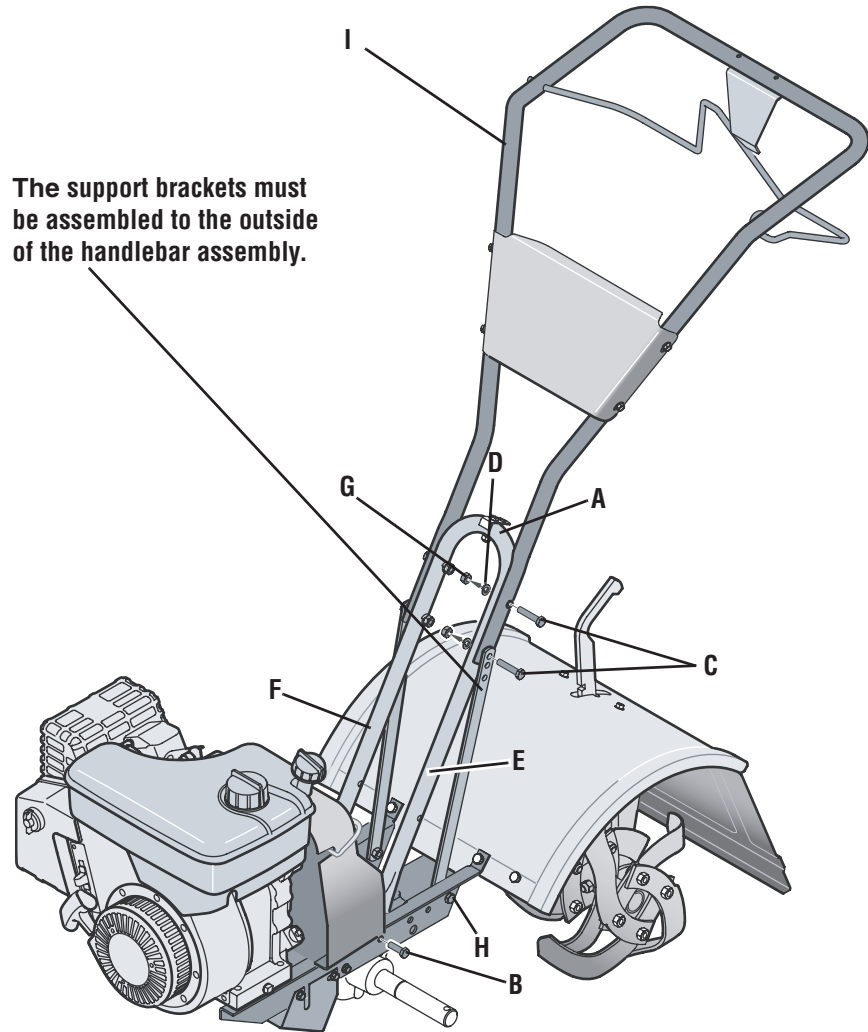

Fig. 2.2: Attach handlebar.
1	Handlebar Support (see A, Fig. 2-2)
1	Handlebar Assembly (see K, Fig. 2-2)
1. Loosely attach the legs of the handlebar support (A, Fig. 2-2) to the inner sides of the tiller frame using two 3/8"-16 x 3/4" hex hd. screws (B), 3/8" flat washers, and 3/8"-16 hex locknuts.
2. Using two 5/16"-18 x 1-1/2" screws (C), 5/16" split lock washers (D) and 5/16"-18 hex nuts (G), loosely attach the handlebar support (A) using the upper holes. Tighten the two screws securely.
3. There are three height adjustment holes in the two handlebar support brackets (E and F, Fig. 2-2). Use a setting that will position the handlebars at approximately waist level when the tines are 3"-4" into the soil. Loosely attach the support brackets to the outside of the handlebar assembly (I) using two 5/16"-18 x 1-1/2" screws (G), 5/16" split lock washers (D) and 5/16"-18 hex nuts (G). NOTE: If a support bracket will not move, loosen attaching screw (H) and nut.